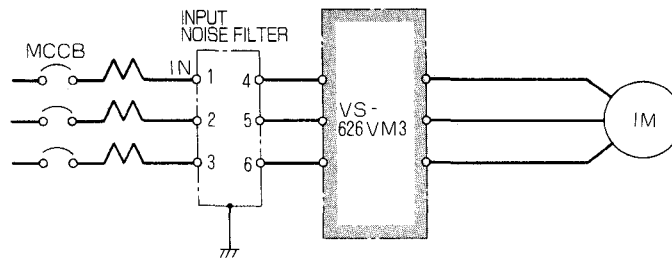

Fig. 4.19 Example of Connecting a Input Noise Filter
(12) The high-frequency components contained in the I/O (main circuit) of the inverter may cause radio frequency interference to nearby radios. If this occurs, the interference can be reduced by the use of a noise filter. It is also effective to run the power cables connecting the inverter to the motor and those that connecting the inverter to the power supply in grounded metal ducts. Fig. 4.19 shows an example of connecting a noise filter to the power supply. The recommended filter is described in Par. 5.5, "Noise Filter."